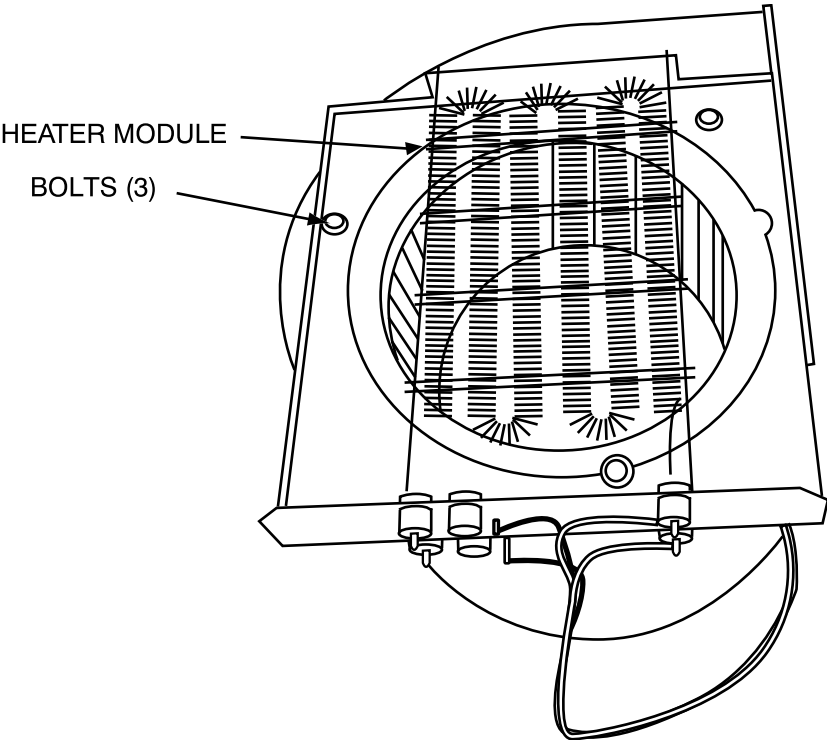

Fig. 3 – Attach Heater Module
7. Open heater package and remove heater module; secure heater module to standoffs on blower inlet with (3) bolts provided (see Fig. 3). Adjust mounting position so that all hardware and sheetmetal clears the heating element wire by at least 1/4 in. Reinstall heater/blower assembly.